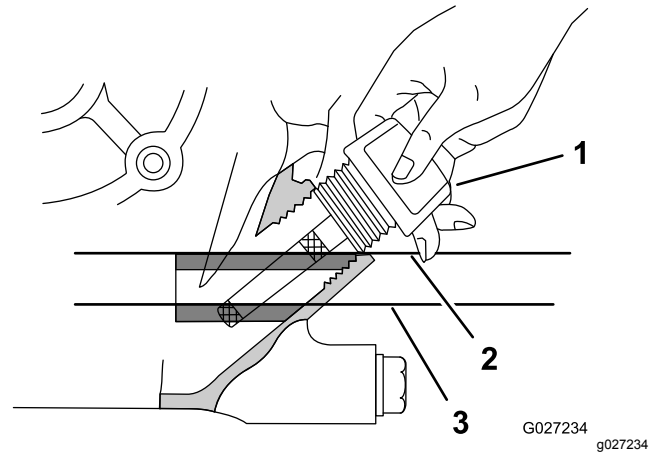

Figure 17
3. Insert the dipstick from the engine as shown in Figure 17.
6. Hand tighten the dipstick into the filler neck (Figure 17).